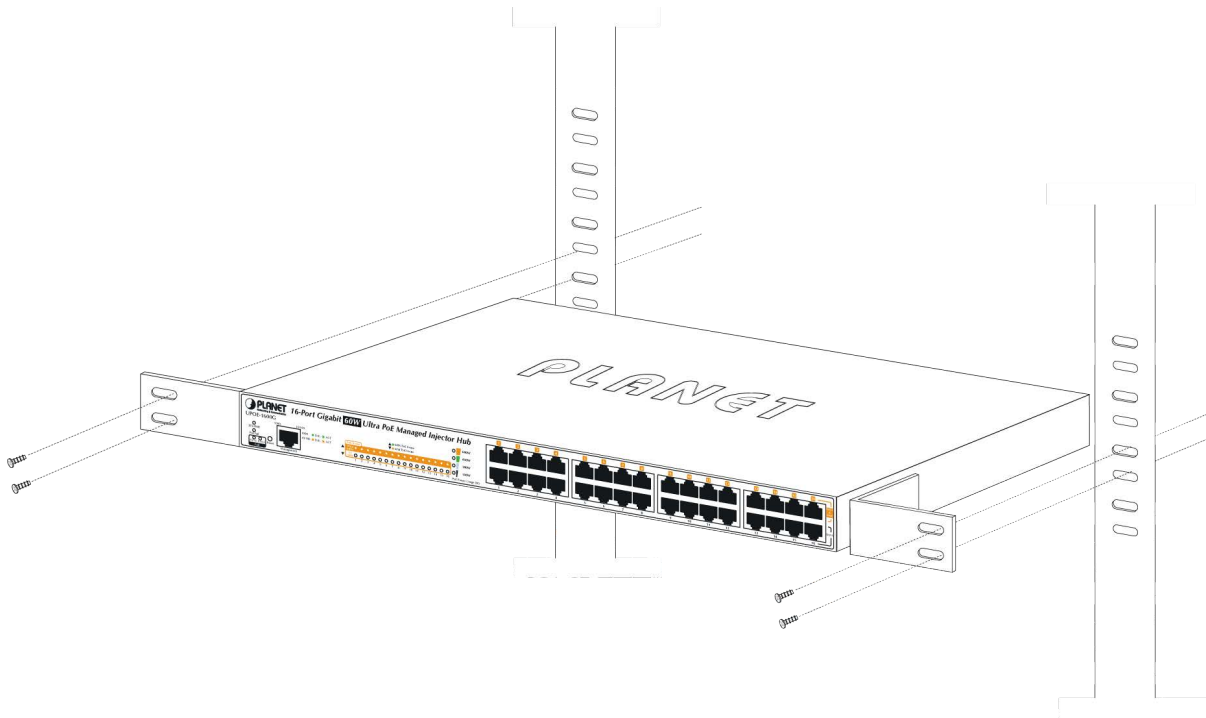

Figure 2-2-3: Mounting the Ultra PoE Managed Injector Hub in a Rack
Step 5: After the brackets are attached to the Injector, use suitable screws to securely attach the brackets to the rack, as shown in Figure 2-2-3.